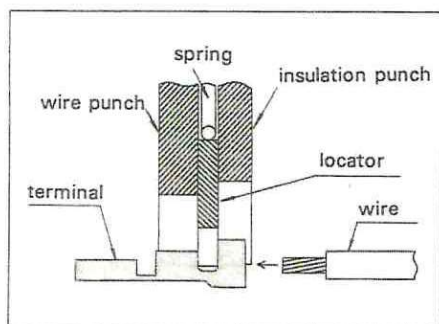

Fig. 3
- (3) If the tool is the locator-equipped type, place the terminal as shown in Fig. 3, so that the locator comes between the wire barrel and the insulation barrel.